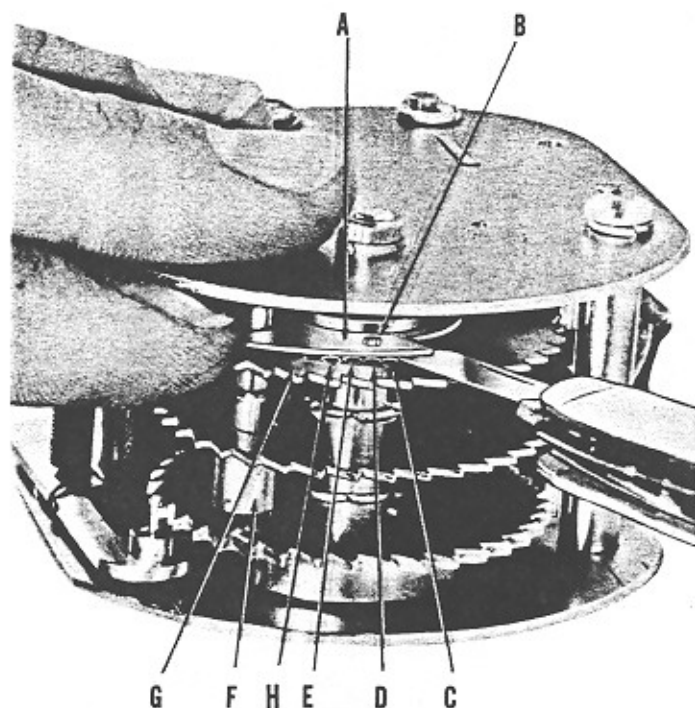

FIG. 5—View of Accumulator
- A. Insert thin blade of pocket knife under quarter wafer (A-Fig. 5), twist slightly, raising wafer pin (B-Fig. 5) from hole.
- B. Keep quarter wheel (G-Fig. 5) from rotating and move quarter wafer until pin drops into six play hole (C-Fig. 5) farthest from ratchet spring stud (F-Fig. 5)
into three play hole (H-Fig. 5) closest to ratchet spring stud (F-Fig. 5).
- B. Keep quarter wheel from rotating and move quarter wafer until pin drops into four play hole (E-Fig. 5). This is the second hole from spring stud (F-Fig. 5).